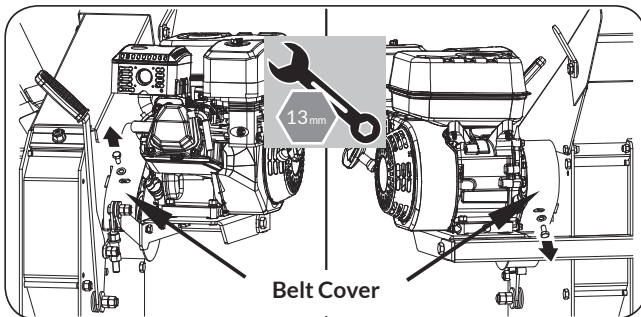

Figure 26
3. Remove the upper belt guard from the front housing and the lower belt guard from the engine base by taking off the fixing bolts respectively. (See **Figure 26**)